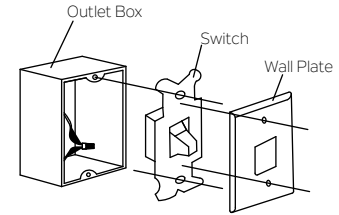

Fig. 19
**Step 1.** Remove the existing wall plate and the old switch from the wall outlet box. Wire nut the BLACK leads (hot) together and push back inside the outlet box. (Fig. 19) or select the desired location with a new wall outlet box.